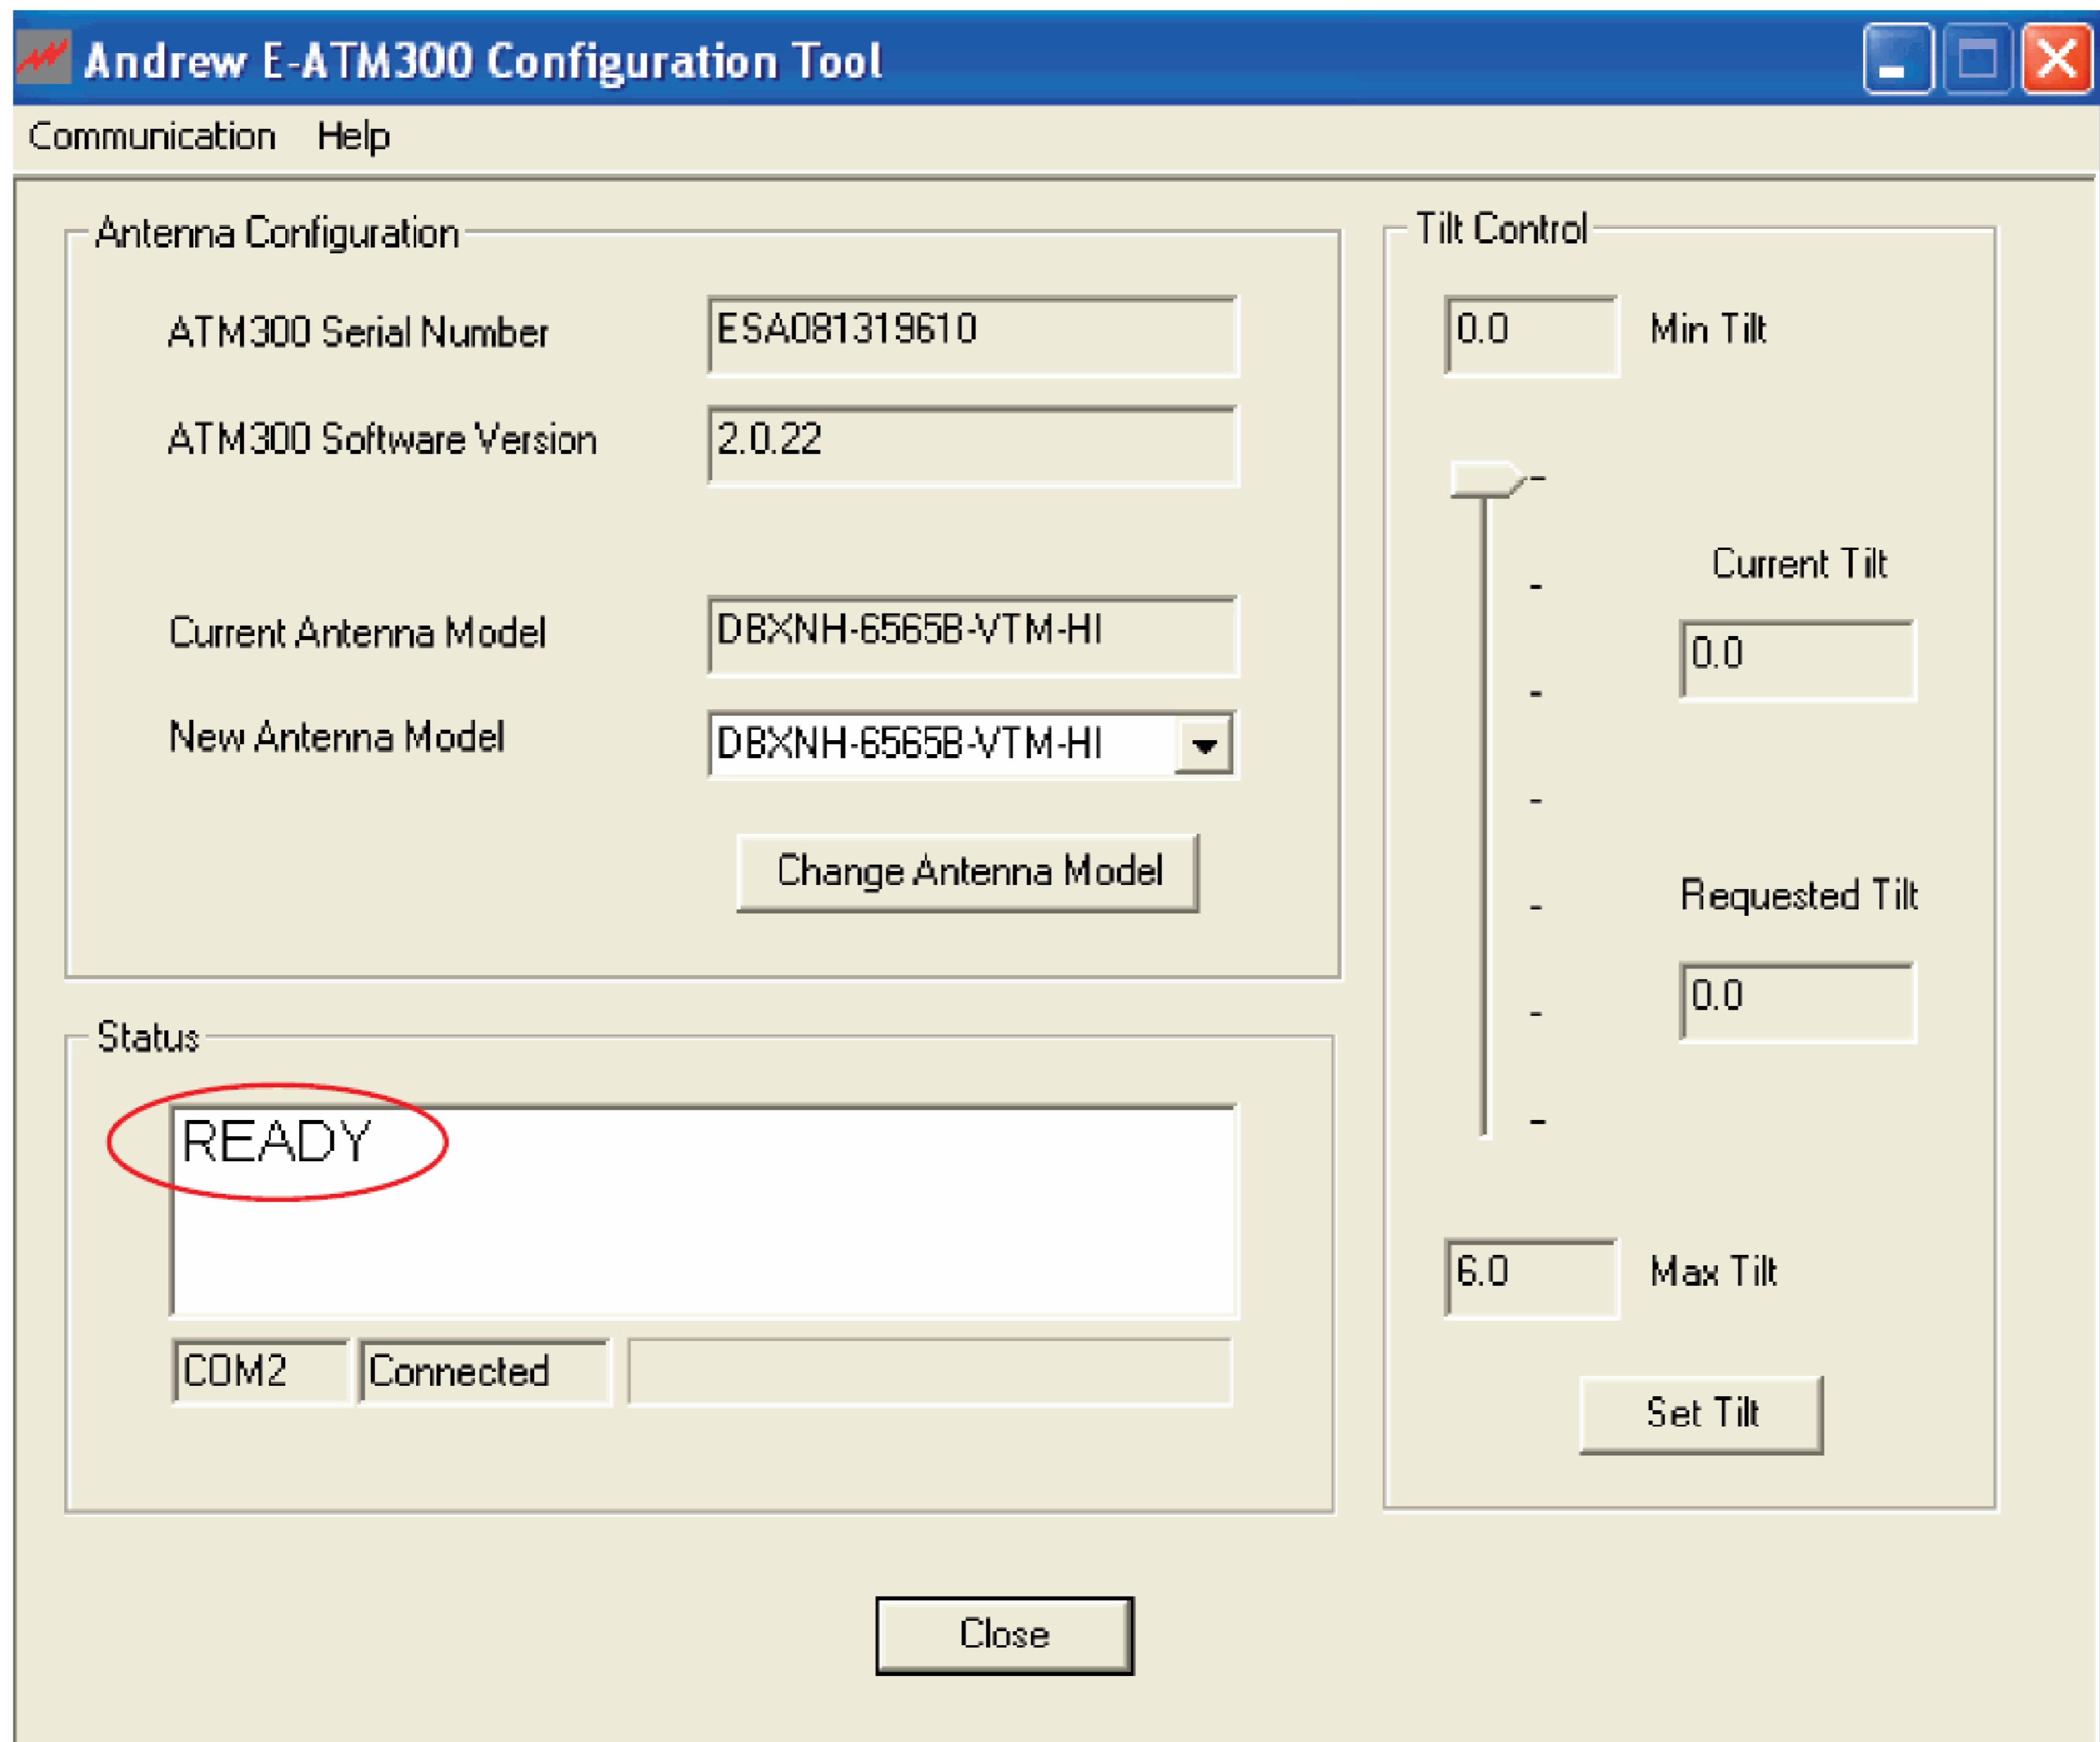

Figure 3-4. Actuator is Ready for Configuration.
7. When "Status" reports "Ready". You can now perform movement of the device or change configuration of the actuator (Figure 3-4).